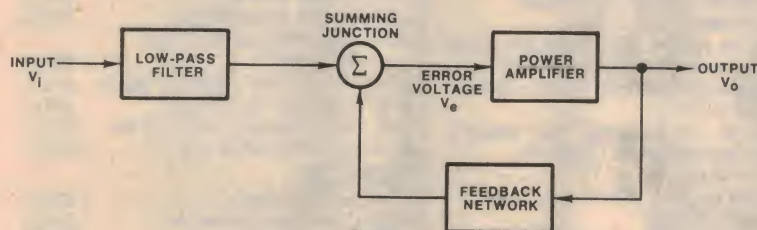

FIG. 1
Let us recap on how TIM is produced. Fig. 1 shows a typical feedback amplifier system. It consists of a low pass filter at the input placed there simply as recognition of the fact that any real life program material that is fed into the feedback amplifier is of limited bandwidth. The cut-off frequency of the input filter is at a frequency designated as  $F(1)$ . Following this input filter is the feedback power amplifier. It is represented by the power amplifier block in the forward path with a feedback network from the output to the input summing junction. The feedback amplifier has an open loop cut-off frequency at  $F(0)$  and it is assumed that the rate of roll-off is first-order, ie, 6dB/octave. Assume also for the moment that the input filter is also first-order.
Finnish amplifier designer, Matti Otala (1) has performed a detailed investigation of the error voltage,  $V_e$ , for various combinations of the ratio  $F(1)$  to  $F(0)$  and feedback factor for the system of Fig. 1. His conclusion was that increasing overall feedback made TIM worse. Furthermore, Otala stated that, to obviate the production of TIM an amplifier should be designed for a wide open-loop bandwidth and overall feedback should virtually be kept to a minimum.